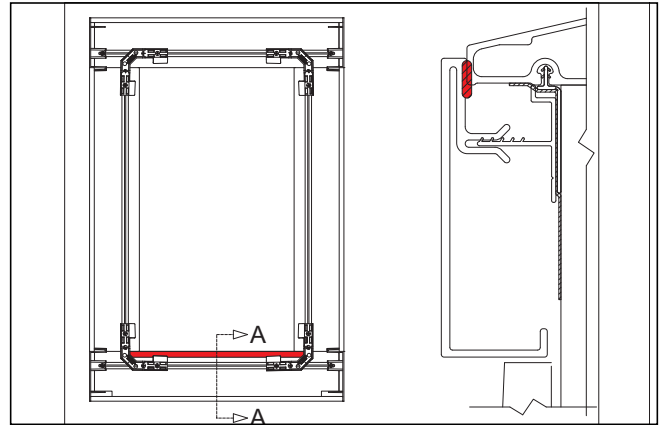

Figure 25
5. Apply a 3/16" (5) bead of clear grade NS class 25 sealant to the sill piece near the bump in the profile the length of the part, on the interior of the casing as shown in *figure 25*.